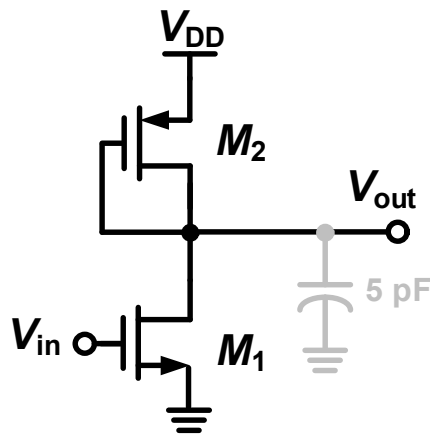

Fig. 1
2. In this problem, consider a CS amplifier with a diode connected load as shown in Fig. 1. Transistors parameters are provided in Table 1.  $V_{in}$  is realized by “vsin” in analoglib with 10 mVp-p and a DC voltage of 500 mV to ensure the bias conditions of  $M_1$  and  $M_2$  unchanged. Perform “noise” simulation and answer the following questions.